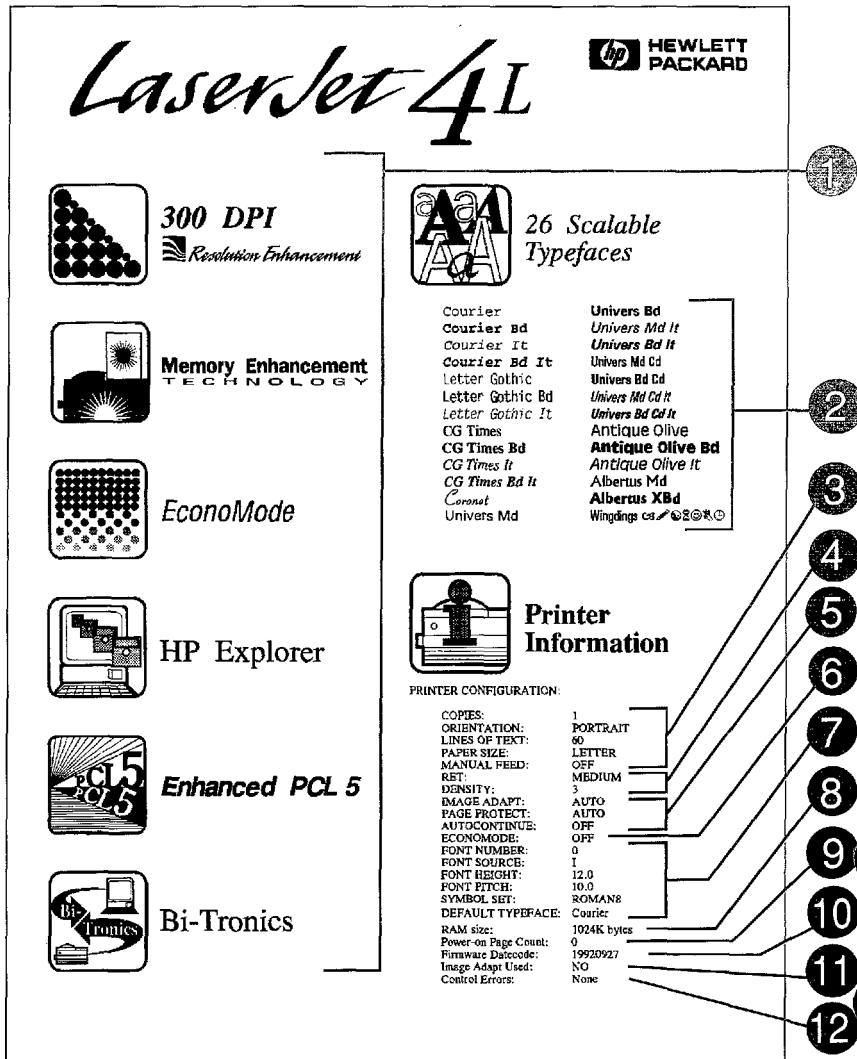

Figure 3-6 LaserJet 4L Self Test Page (showing default settings)
3. After about 6 seconds, the Data light blinks and the self test page starts to print (see Figure 3-6). Usually, only one page prints. If fonts or macros have been downloaded, a second page prints.
Figure 3-6 shows a self test printout for the LaserJet 4L. It lists all factory default settings.
**Note** Removing ac power returns items 3 through 12 to factory default settings (shown in Figure 3-6).